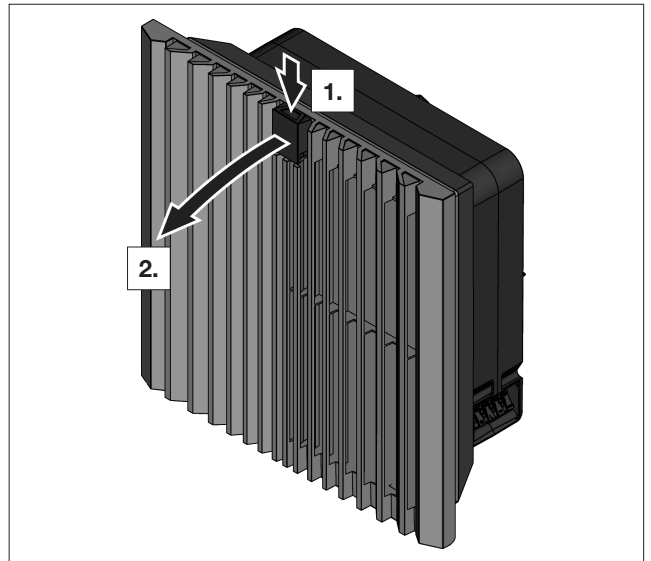

Fig. 14: Unlocking the louvred grille
- To unlock the louvred grille, press the function logo from above (see fig. 14).